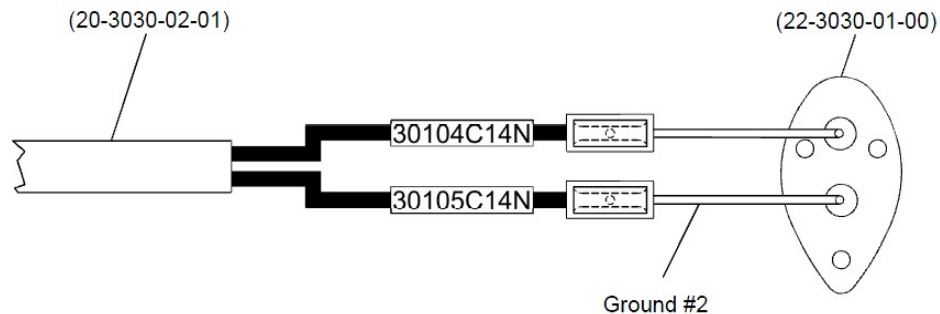

Figure 57: Heated Pitot Static Probe Assembly Ground Wire #2 Installation
- 13.3.6** Splice together wire 30105C14N with the ground lead of the remaining heater element, from the Heated Pitot Static Probe Assembly. Use the splice provided with the Heated Pitot Static Probe Assembly. See Figure 57.